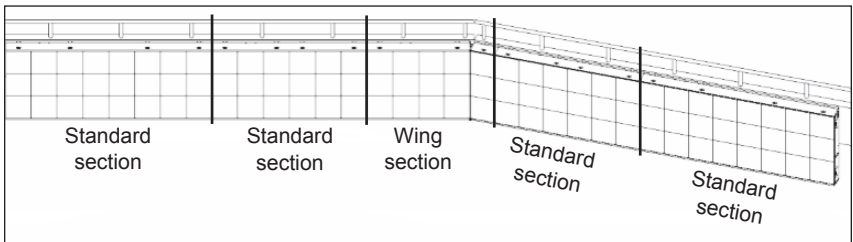

Figure 17: Opening Wing Beverage Shroud
1. Open or remove the wing beverage shroud. Refer to **Figure 17**.